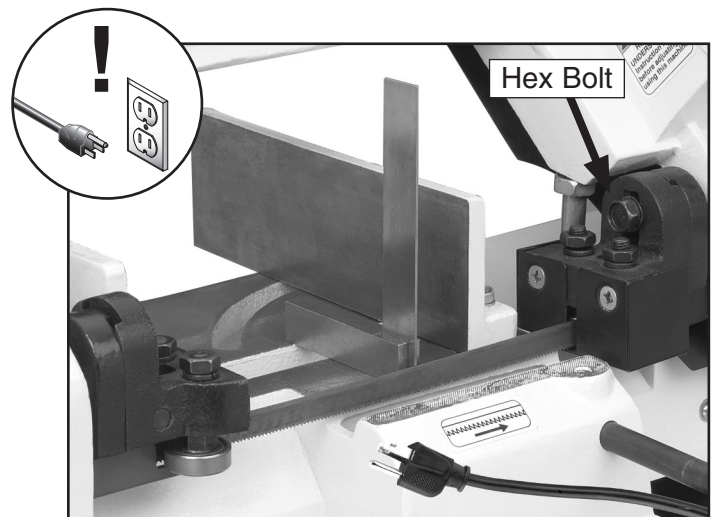

Figure 47. Squaring the blade.
3. Place a square on the table bed and against the edge of the blade (**Figure 47**), and check different points along the length of the table between the blade guides.
4. Loosen the hex bolt shown in **Figure 47**, and rotate the seat until the blade is vertical to the bed, then tighten the hex bolt.